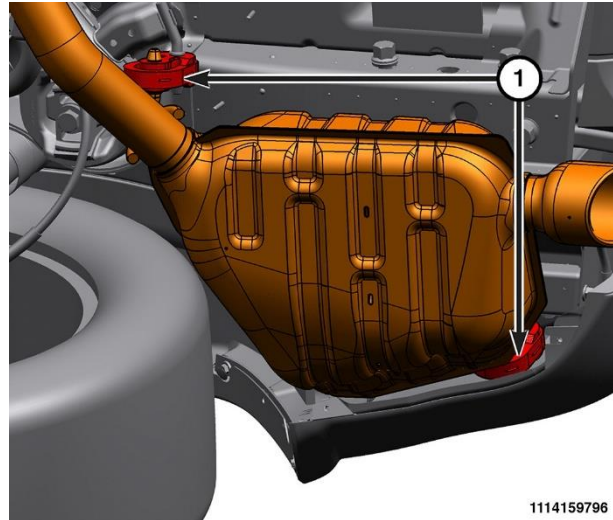

Figure 7 – Rear Exhaust Isolators
11. **All vehicles:** Remove the two rear exhaust isolators (1) (Figure 7).